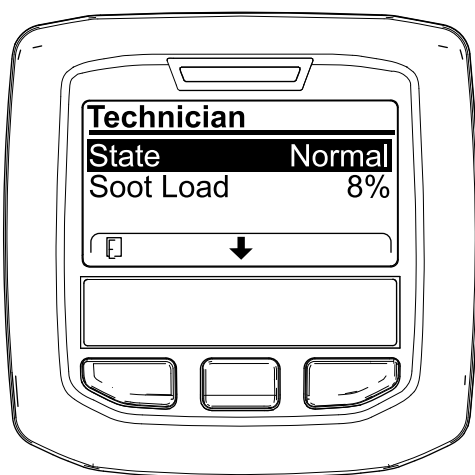

Figure 26
- Use the DPF operation table to understand the current state of DPF operation (Figure 26).